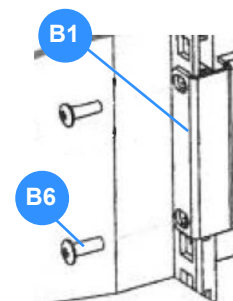

**Figure 3.7 UPS Rack mounting kit**
Figure 3.7 illustrates the components contained in the supplied rack-mounting rail kit.
The rails are left and right handed and must be installed with the lip facing the bottom of the rail, as shown in Figure 3.7.
1. Extend the mounting rail and hold in place (see Figure 3.7).